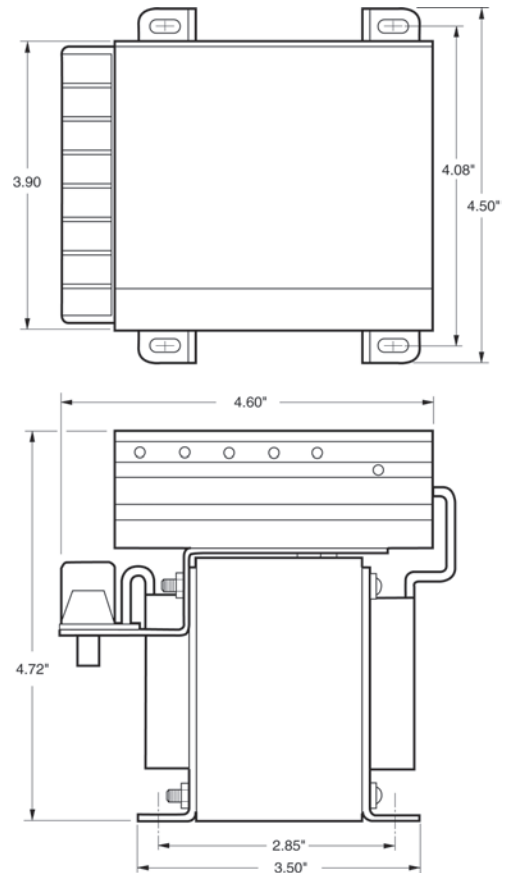

Figure 4
- 2. Using the dimensions of Figure 3 or Figure 4 depending on whether the CBC-400-XX or CBC-450-XX is to be used, layout the dimensions on the location selected or use the cut-out template of Figure 5 or 6. (See page 53.)